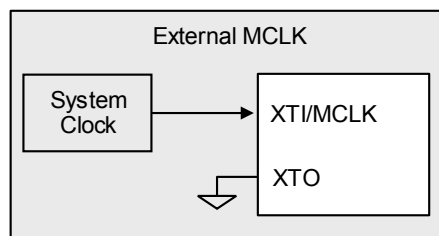

Figure 4-13. System Clocking—External MCLK Mode
- Externally sourced through the XTAL/MCLK input pin (see Fig. 4-13)
- PLL reference clock is provided through the XTAL/MCLK input pin (see Fig. 4-13), then use internal PLL to convert into MCLK_INT